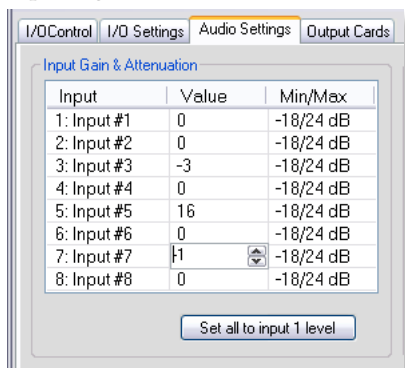

Figure 5-28 — Enter a value, or scroll the arrows to set the input levels
2. Either; using the arrows, scroll up or down to the desired setting (in 1 dB increments), or directly type in the value (see figure 5-28). Press Enter. The input's gain and attenuation is set to that level.